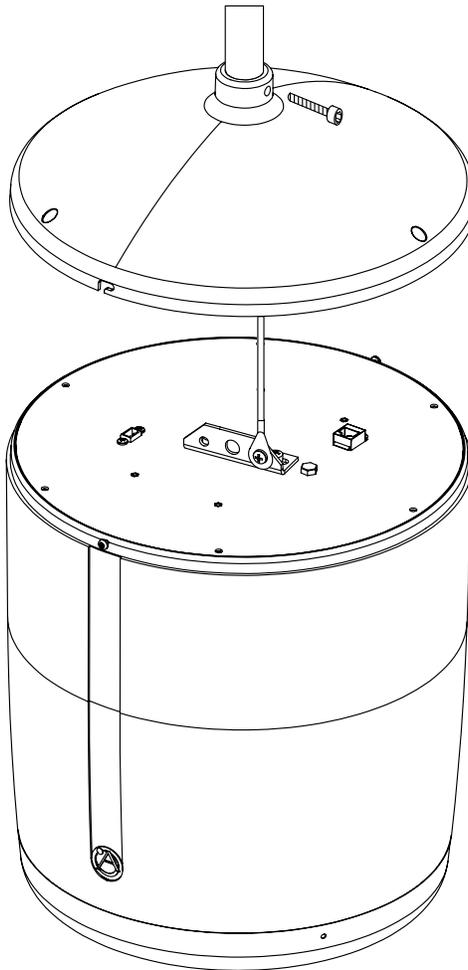

Figure 9
4. Screw the IP-PM8GD top cover onto the bottom of the down pipe, install the safety screw through the side of the top cover and through the end of the down pipe. (Figure 9)
6. Route the eyelet end of the safety cable down through pipe and the cover of the IP-PM8GD. Attach the eyelet to one of the outer mounting holes on the support plate of the IP-PM8GD using the included mounting screw. (Figure 9)
8. Position the speaker under the top cover, align the side cover screws and rotate the speaker clockwise to align the top cover mounting screw holes. Install the 3 mounting screws which are located in the hardware bag. Then tighten the side cover screws. (Figure 9)